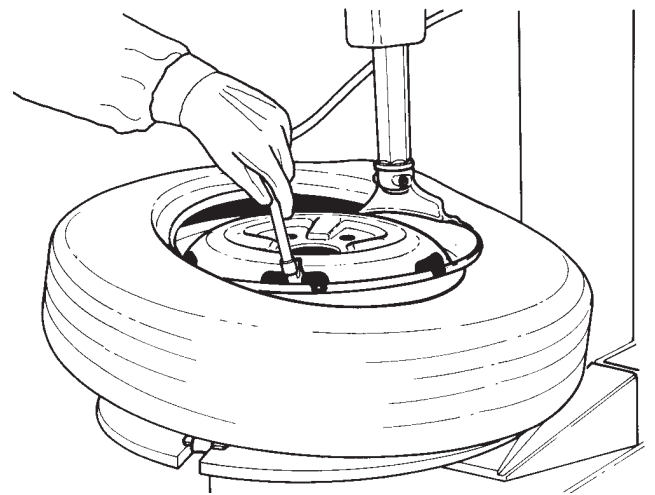

Fig.25
**D.** Mount the first bead as described in section 4.2.B. Put the tube inside the tire and connect the inflation air line to the tube valve to hold the tube in place. (Fig.25). Mount the top bead following the directions above.